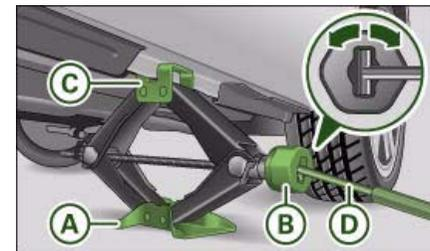

Fig. 274 Changing a wheel: Jack
- Place the jack ⇒ *page 283* underneath the **jacking point** closest to the wheel being changed. Make sure the base plate (A) is flat on the ground.
- Wind up the jack by the knob (B) until the claw of the jack (C) completely surrounds the **seam** on your vehicle ⇒ fig. 274. ▶
- Now fit the crank handle **D** onto the jack by inserting it in the opening on the knob ⇒ *page 290*, fig. 274. Turn the crank handle clockwise or anti-clockwise to secure it in place.